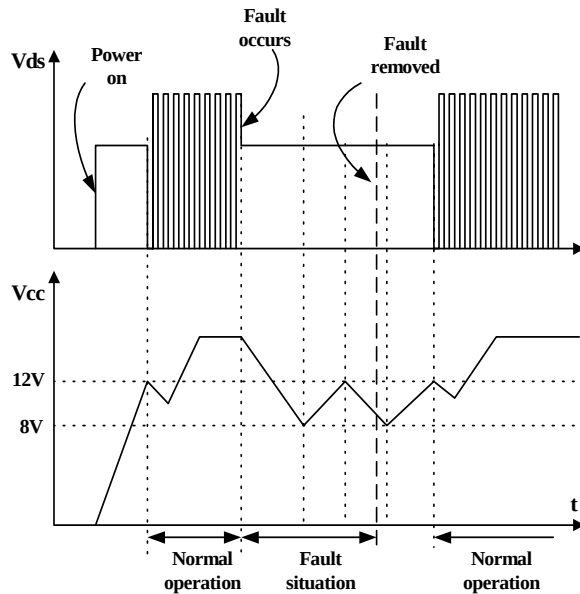

Figure 6. Auto restart operation
**3. Protection Circuit :** The FSDM07652R has several self protective functions such as over load protection (OLP), abnormal over current protection (AOCP), over voltage protection (OVP) and thermal shutdown (TSD). Because these protection circuits are fully integrated into the IC without external components, the reliability can be improved without increasing cost. Once the fault condition occurs, switching is terminated and the Sense FET remains off. This causes Vcc to fall. When Vcc reaches the UVLO stop voltage, 8V, the protection is reset and the internal high voltage current source charges the Vcc capacitor via the Vstr pin. When Vcc reaches the UVLO start voltage, 12V, the FPSTM resumes its normal operation. In this manner, the auto-restart can alternately enable and disable the switching of the power Sense FET until the fault condition is eliminated (see figure 6).